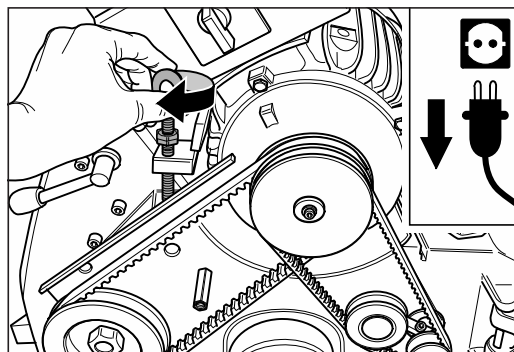

Fig. 40 Put the V-belts back on and tighten them with the tensioning bolt at the motor.
- 7 Mount the V-belts and tension them by turning the eye bolt at the motor clockwise (fig. 40).